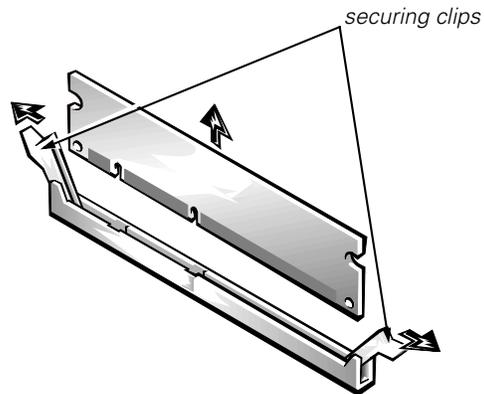

Figure 4-21. DIMM Removal
- 3. Press outward on the socket's securing clips until the DIMM pops free of the socket (see Figure 4-21).**